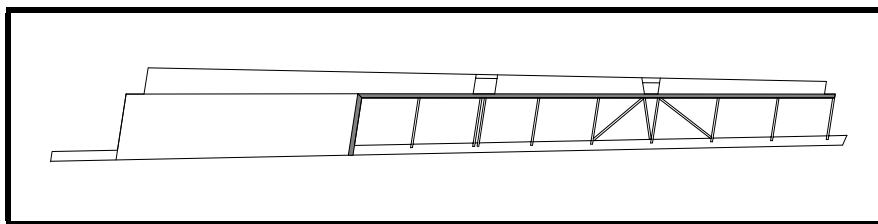

Figure 30
- ☐ Install the upper trailing edge skin between Sta. 2 and 6. See Figure 30.